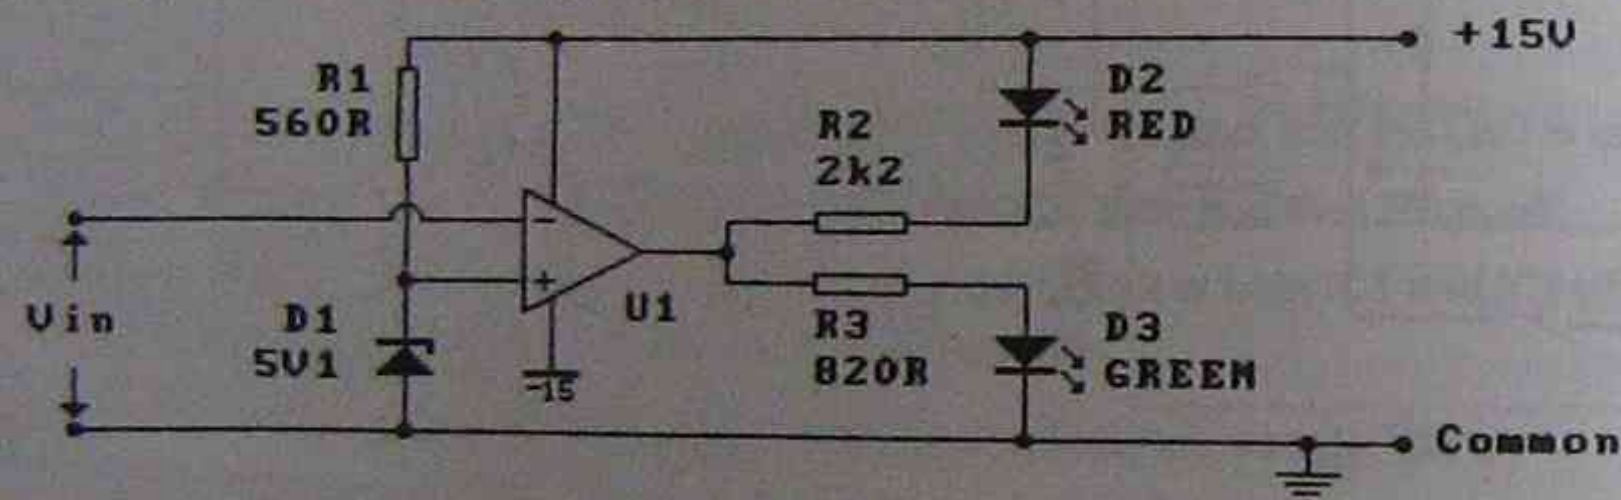

Fig.2.
2. For the circuit of Fig.2, identify which LED is on under the following conditions :
3. Sketch the transfer curve for the circuit of Fig.2.